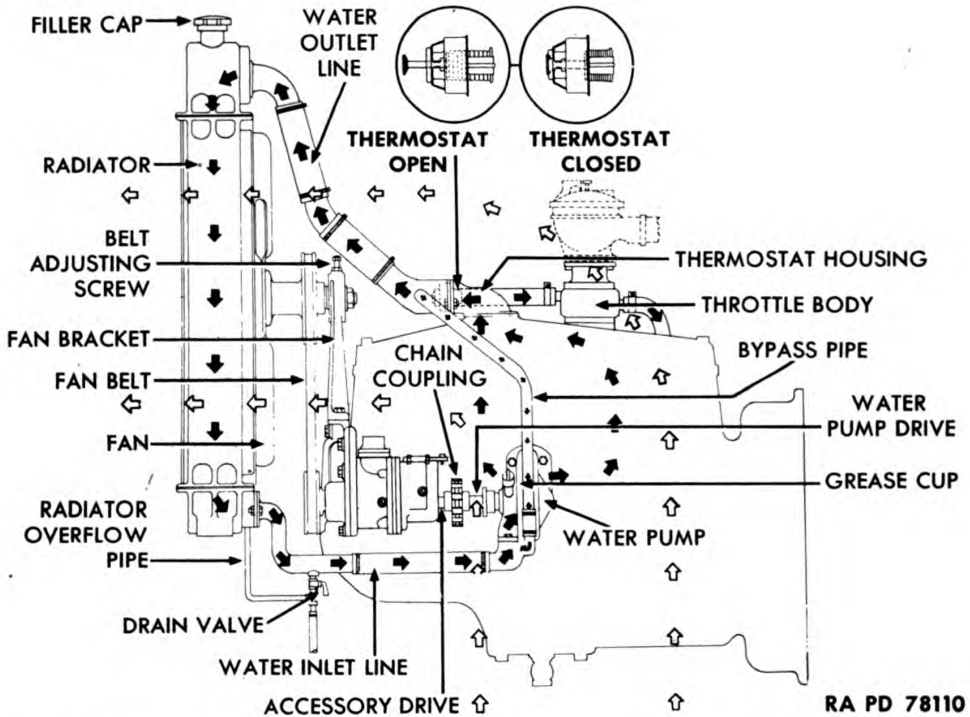

Figure 16 — Cooling System Diagram — Black Arrows Show Water Circulation; White Arrows Show Air Circulation
50. DESCRIPTION (fig. 16).
b. Functioning. The impelling force of the water pump circulates the cooled water from the bottom of the radiator through the entire cooling system (fig. 16).